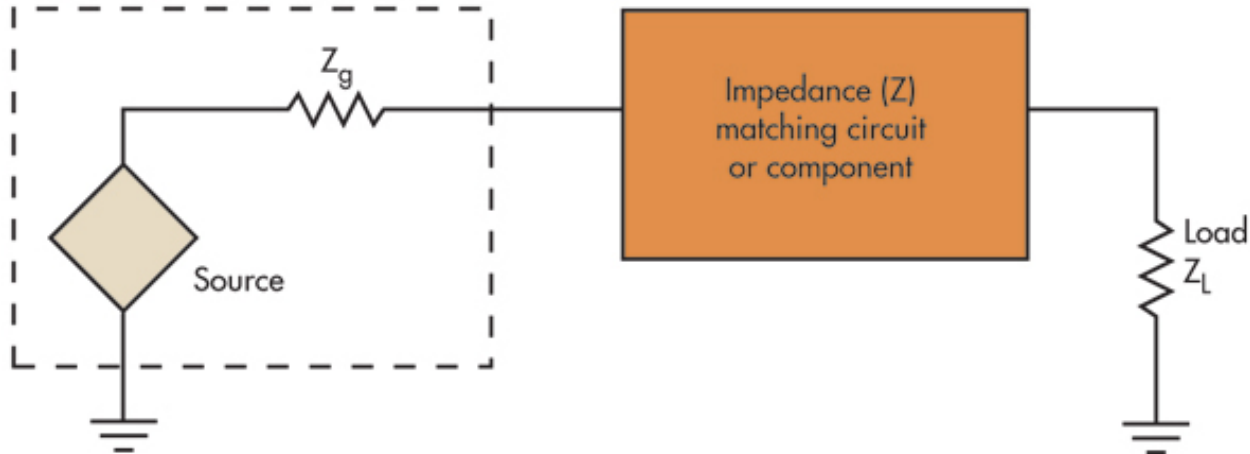

Fig 8. An impedance-matching circuit or component makes the load match the generator impedance.
The common problem of mismatched load and source impedances can be corrected by connecting an impedance-matching device between source and load (Fig. 8). The impedance (Z) matching device may be a component, circuit, or piece of equipment.